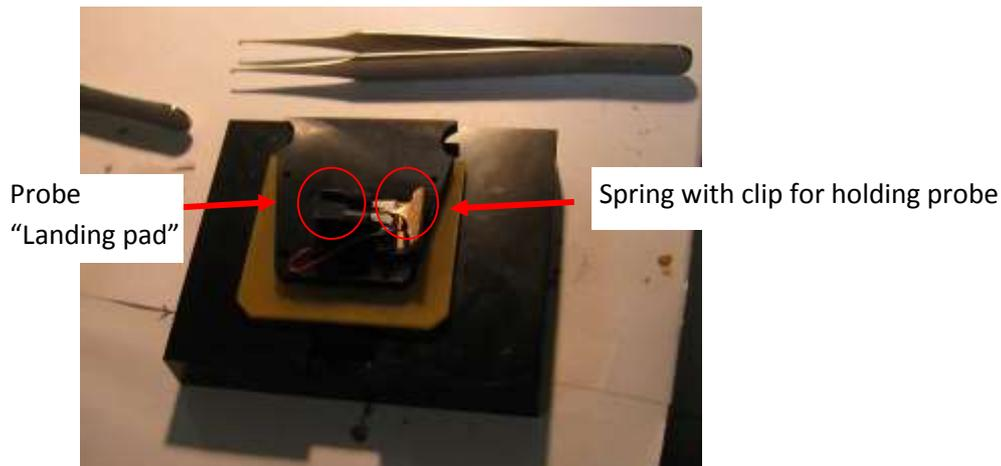

Figure 1: Probe holder cassette in Probe insertion base.
1. Remove the probe holder cassette from the instrument and place it, upside-down on probe insertion base, see figure 1.